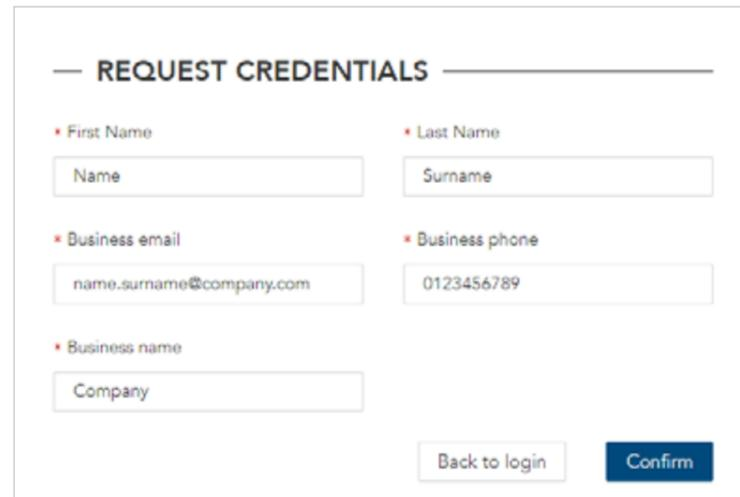

Figure 2 - Data required to create credentials
2. In the new section the minimum data for the creation of the user will be requested (Figure 2).